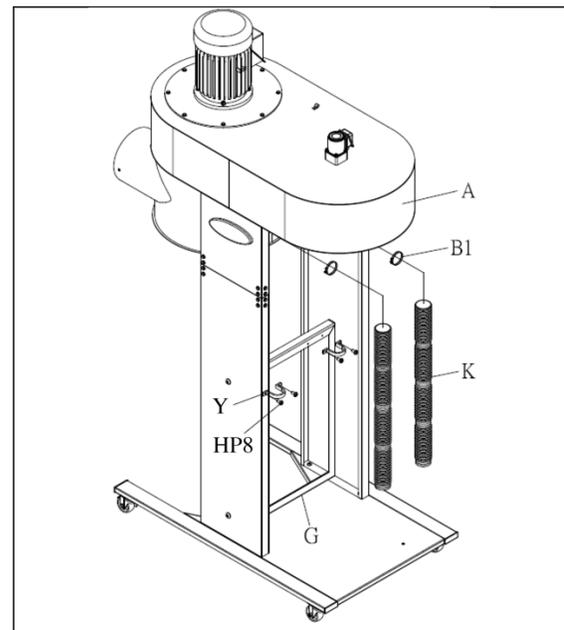

Figure 5-5 (filter not shown for clarity)
7. Place 2-inch hose (K) on main housing and tighten with hose clamp (B1). See Figure 5-5.
8. Install the Hose Hanger (Y) with Phillips pan head screw (HP8) on the Support frame (G). Tighten screws. See Figure 5-5.